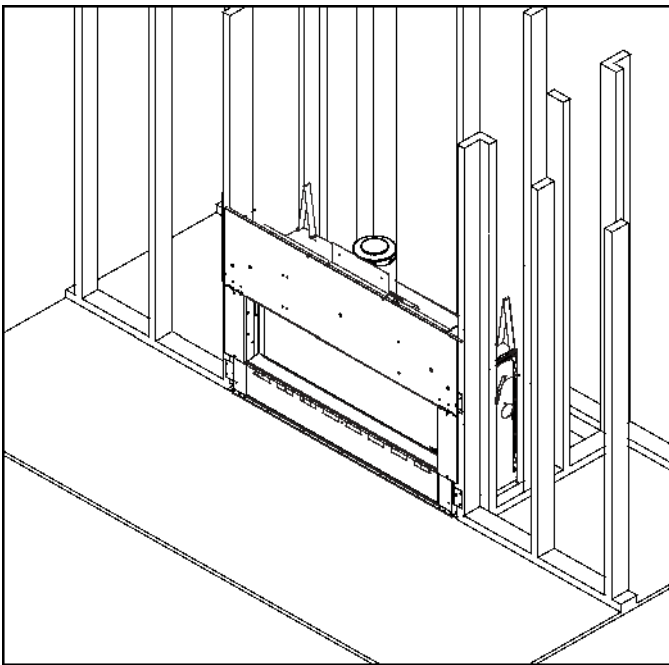

Figure 3.9 Floor Protection
**Note:** Figure 3.7 and Figure 3.8, and Figure 3.9 show the fireplace installed on the floor. However, this fireplace can be elevated off the floor provided that the fireplace is properly supported by framing materials and the ceiling clearances are maintained.